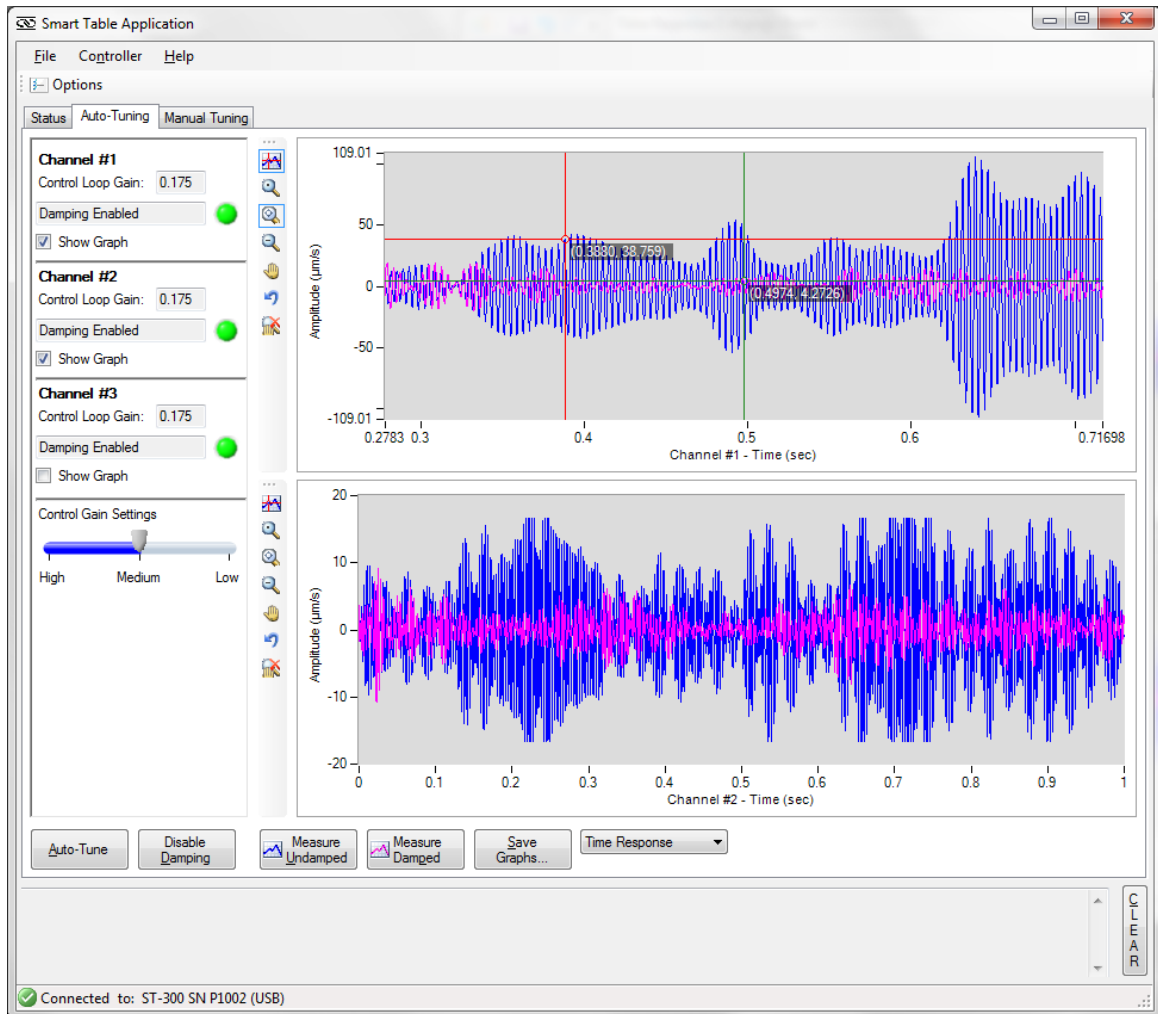

Figure 34 Time Response with Channel 1 zoomed and cursors selected
- Enable Cursors. Use this feature to bring up two cursors on either graph. The cursors can be “grabbed” with the mouse and moved on the X or Y-axis. The cursor position is displayed on the graph in an x,y format (Figure 34).
- Zoom to Rectangle. Draw a rectangle on the graph. The graph will be expanded at the rectangle size (Figure 34).